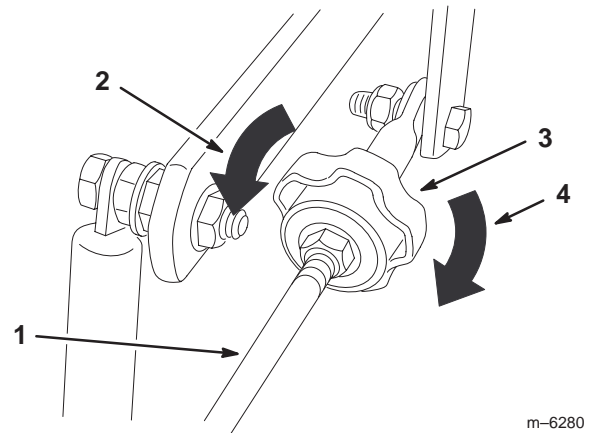

Figure 47
4. To make the machine go right, turn the knob towards the rightside of the machine. Refer to figure 47.
5. To make the machine go left, turn the knob towards the leftside of the machine. Refer to figure 47.